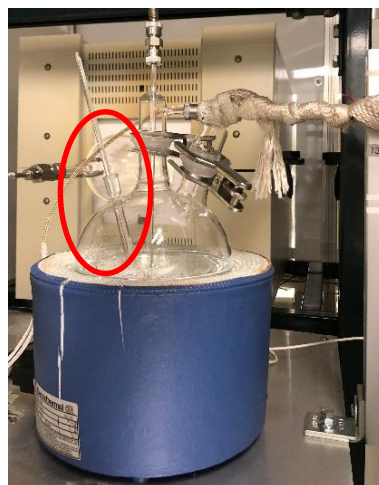

Figure 5
**NOTE:** Make sure that the thermometer well does not become dry during your program by refilling it frequently with DI water in the provided bottle (Figure 5).